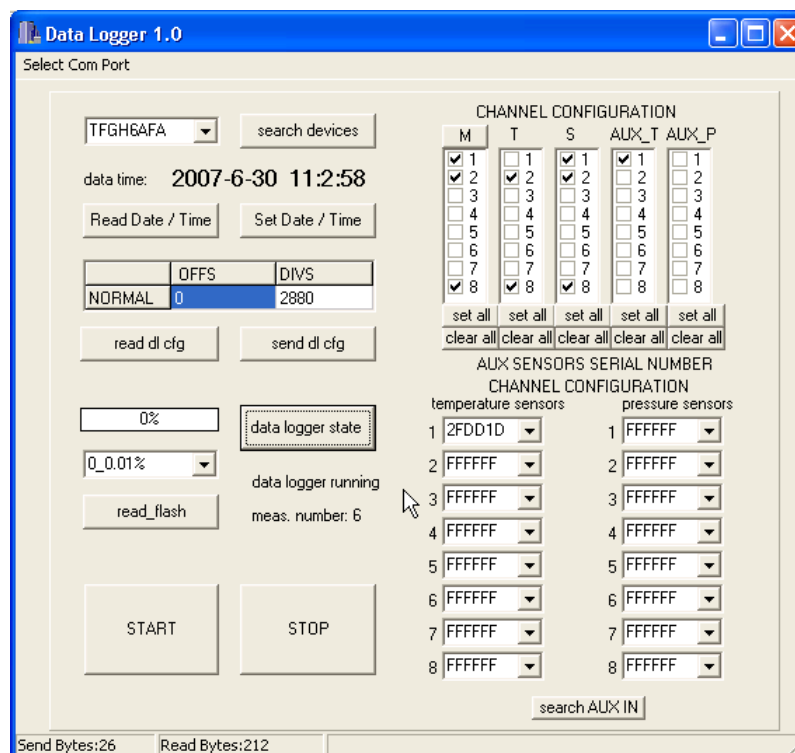
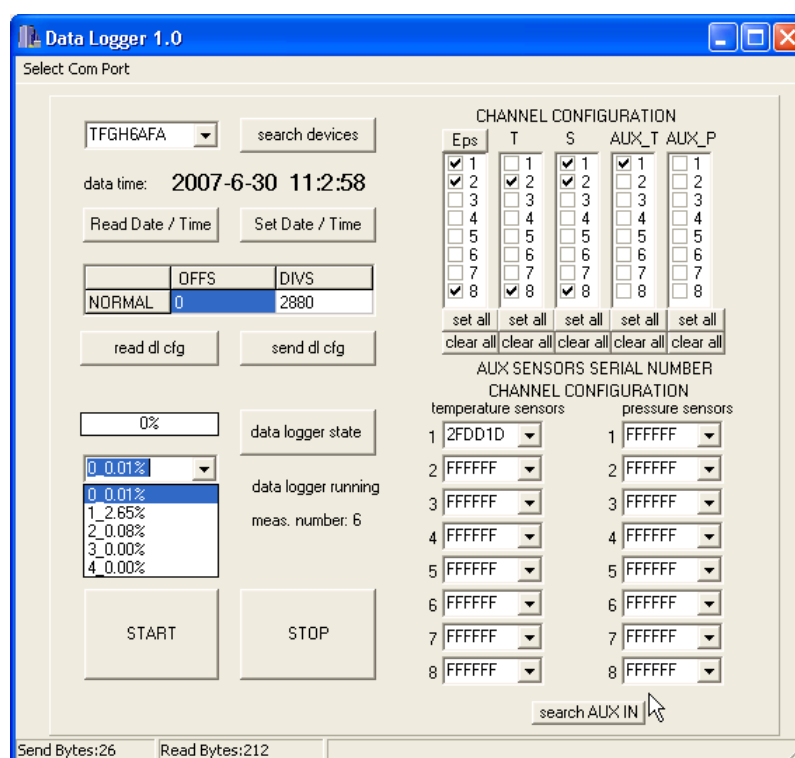

Fig. 18. DL100.exe application window
Fig. 19. DL100.exe application window with opened selection for choosing the required flash memory area with user data
After starting the DL100.exe application the following window appears (Fig. 18). It contains several elements for working in the modes mentioned above. The pushbuttons and entry fields have hints that appear on the screen when the mouse pointer is over it.
The value **DIVS=2880** in Fig. 18 means that the series of measurement will start every  $24 \times 3600 / 2880 = 30$  second.
On the right side of the window in Fig. 18 there are two selection tables for marking probes and variables that should be measured in the selected channels. They are named:
deselecting a chosen variable in all channels. The sign M on the pushbutton marking the name of the first column can be changed for Eps. This is for changing the data in the output file from volumetric moisture (M) to dielectric permittivity (Eps) as is shown in Fig. 18 and Fig. 19 as well as the corresponding Table 5 and Table 6. The data collected in the TDR/MUX/mpts/dlog device contain information about the both variables, M and Eps, and the pushbutton M / Eps is respected only in exporting the data text file to PC computer.
The whole flash memory in TDR/MUX/mppts/dlog device is divided into maximum number of 32 user data areas, where the data are stored. They are marked nn\_pp.pp%, which is presented in Fig. 19 in the pull-down box.
The data in Table 5 refer to the situation when M (moisture) is selected, while the data in Table 6 refer to the situation when Eps (dielectric permittivity) is selected in the CHANNEL CONFIGURATION setting (Fig. 18 and Fig. 19).